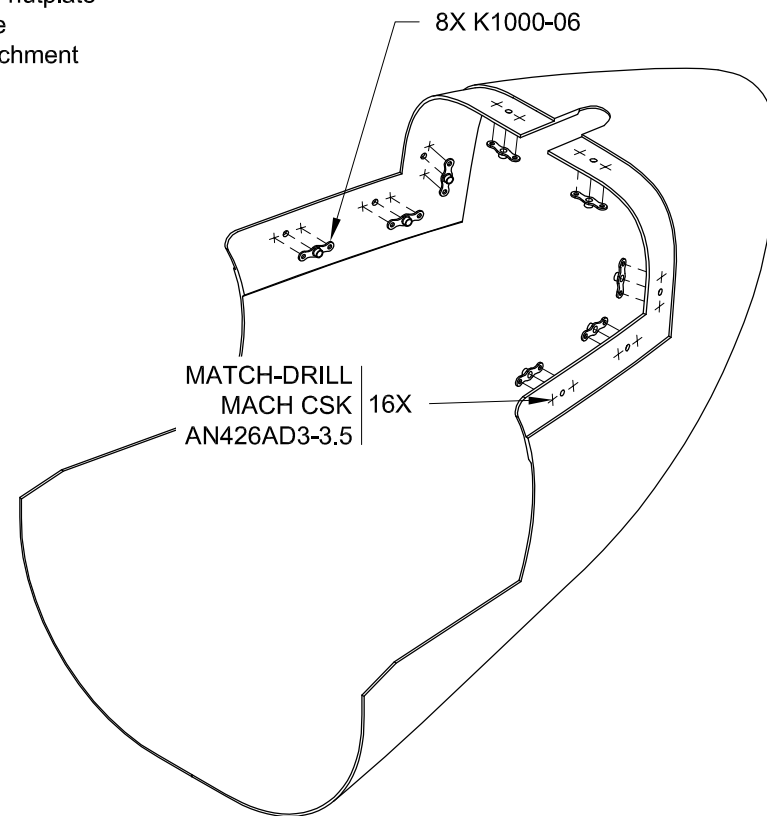

FIGURE 1:
Step 3: Machine countersink the nutplate rivet holes in the fairing as shown in Figure 1.
Step 4: Rivet the nutplates to the F-1294B-1 using the rivets called out in Figure 1.
Step 5: Using #6 screws, temporarily screw the F-1294A to the F-1294B-1 as shown in Figure 1.